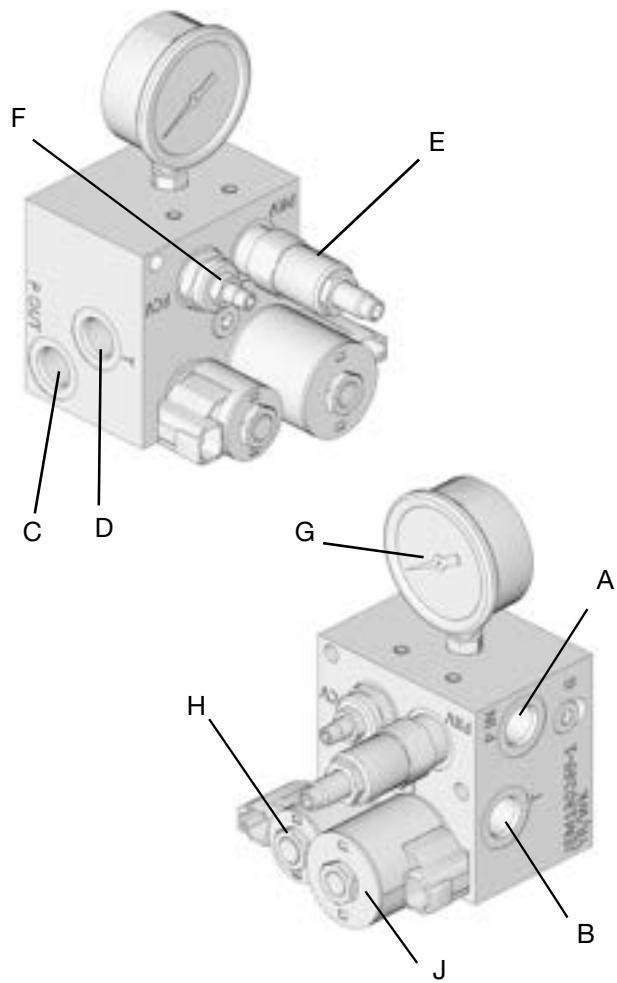
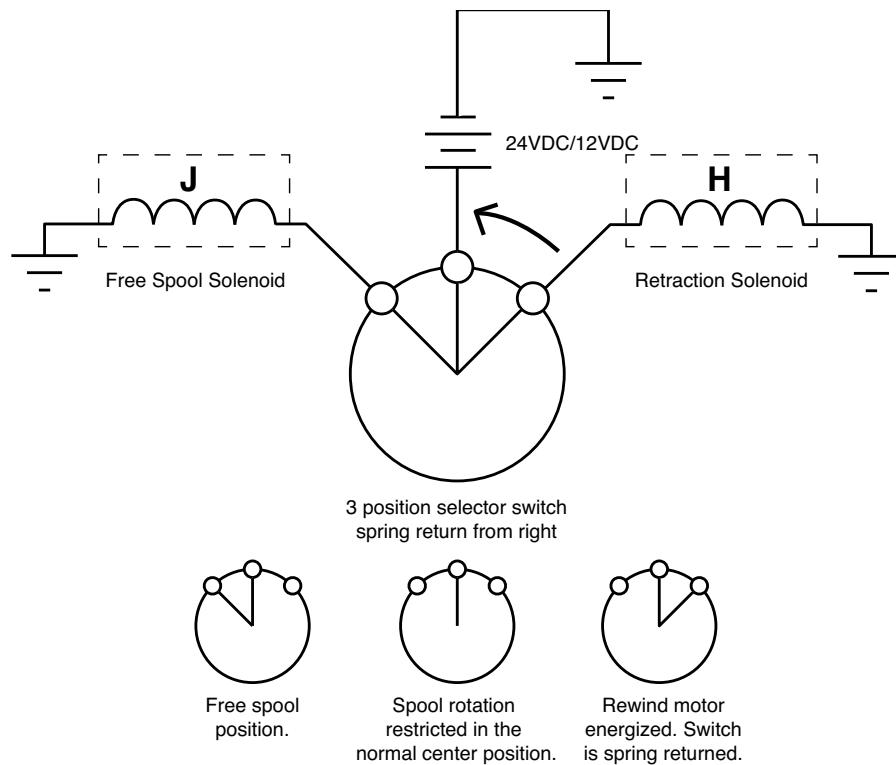

FIG. 19
FIG. 20
1. Install hydraulic control (Graco PN 127224 - 12V or 127225 - 24V. See **Miscellaneous Kits**, page 45) (FIG. 19).
- a. Connect hydraulic power supply to hydraulic pressure inlet (A).
- b. Connect tank return hose to tank port (B).
- c. Connect hydraulic pressure outlet (C) to proper hydraulic motor inlet on reel for the desired rotation direction.
- d. Connect tank return (D) to remaining port on reel motor.
2. Wire switch to solenoids on hydraulic control module as shown in (FIG. 20 and FIG. 21).
- Hydraulic Motors - Reverse input and return to tank lines on hydraulic motor (FIG. 19, page 27).